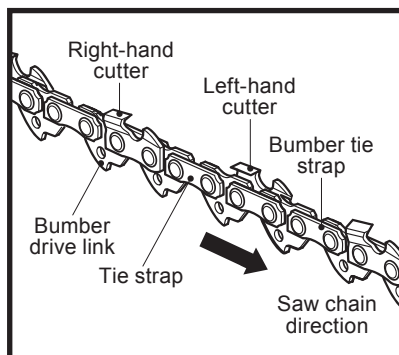

**Fig. 17**
1. Have the saw chain (16) sharpened professionally at an authorised service centre or sharpen the chain yourself by using a proper sharpening kit. Also observe the sharpening instructions supplied with the sharpening kit.
2. The height difference between the tooth and the ridge is the cutting depth. When sharpening the saw chain (16) you have to consider the following points (Fig. 17).